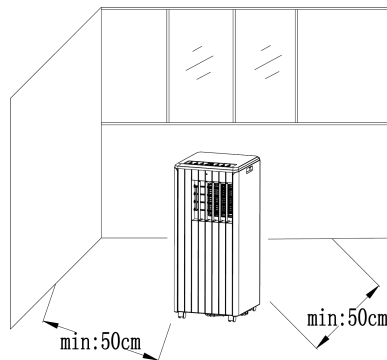

Figure 4
1) Move the machine with installed heat pipe and fittings before the window, and the distance between the body and walls or other objects shall be least 50cm (as shown in Fig.4).